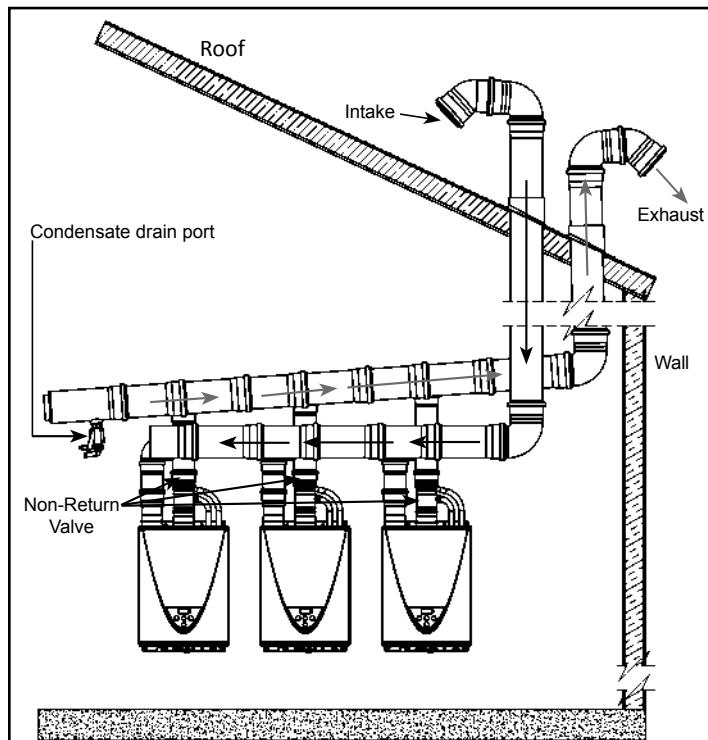

Figure 4. Typical Common-Vent Through The Roof Installation
6. The terminations for the roof and air intake lines shall consist of one 90° elbow and one 45° elbow as shown in Figure 4 through Figure 11. The terminations may use two 90° elbows. Install screens with minimum 3/4 in. (19mm) mesh spacing in each termination to prevent foreign material from entering the vent system.